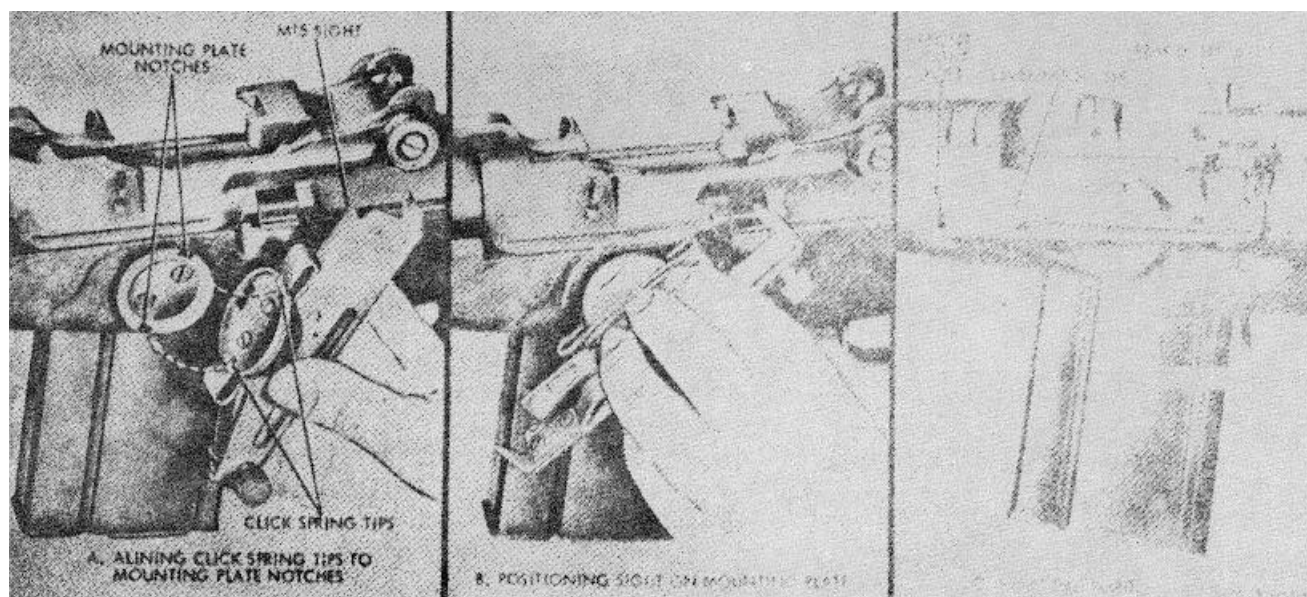

Figure 3-3. Remove/Install Sight, M15 on rifle.
b. Removal/ installation. Refer to figure 3-3 and TM 9-1005-223-10.